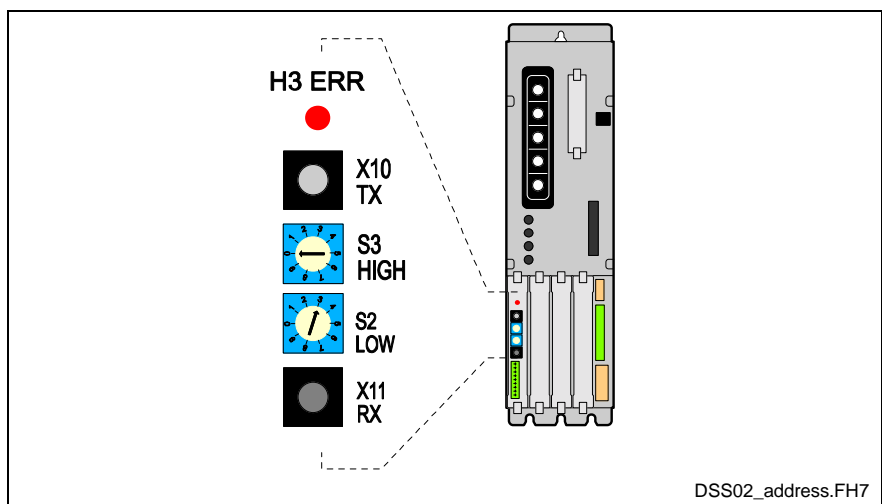
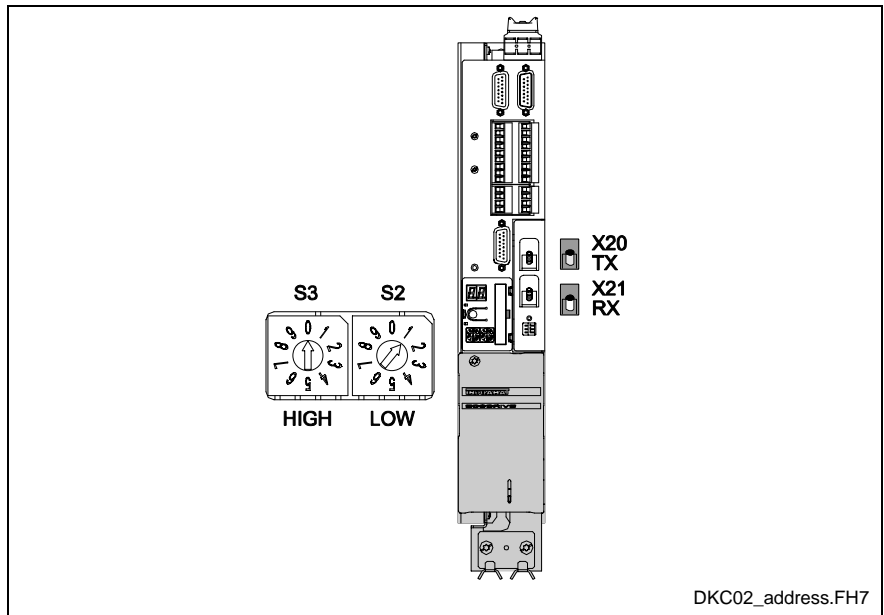

Fig. 9-7: SERCOS Connections for DSS02.1M (DIAX04)
Fig. 9-8: SERCOS Connections for DKC\*2.3
In order to achieve proper drive addressing, set the S2 (low) and S3(high) rotary selector switches on the DSS02.1M and DKC\*2.3 firmware module to a unique number for each drive contained in the SERCOS ring. The allowable address range in a VisualMotion system is between 01..40. Refer to Fig. 9-7 and Fig. 9-8.
**ECODRIVE03 (DKC02.3)** The transmitter output power (TX) on the DKC02.3 is set via DIP switches S20/2 and S20/3. Refer to Fig. 9-8.